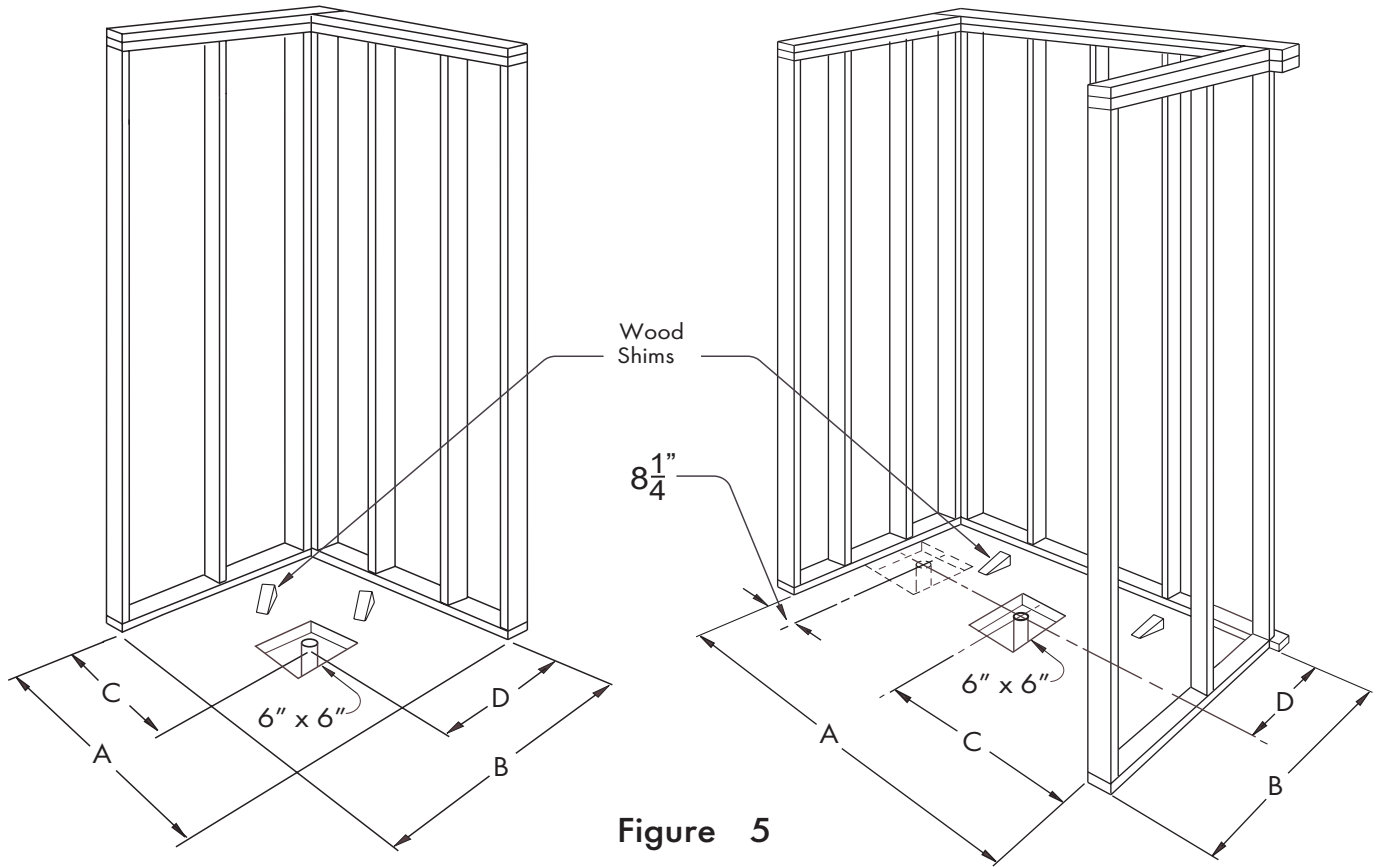

Figure 5
1. Review **Figures 5 and 6**. Make sure alcove is of proper size. Framing alcove must reflect interior dimensions on diagram to permit installation of unit. **Note in diagram the required opening in the floor to provide clearance for the drain trap and fitting connection.**